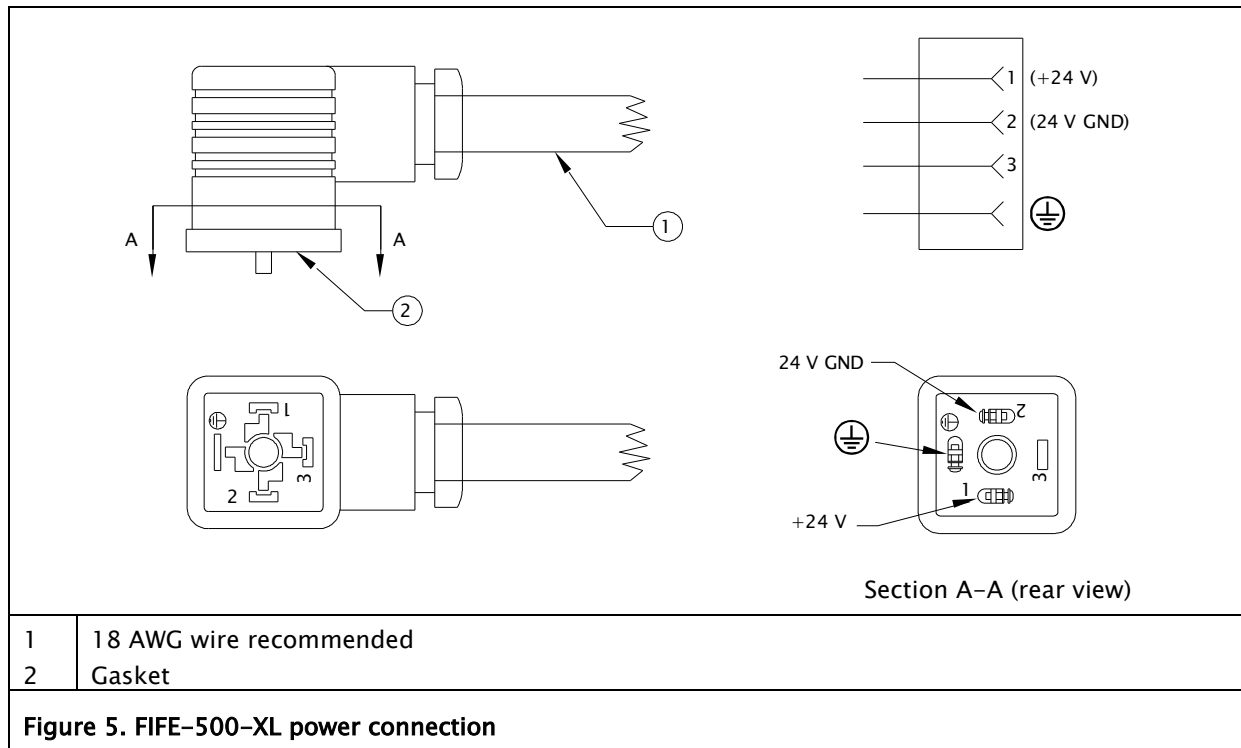

Figure 5. FIFE-500-XL power connection
4. Connect a 24 VDC \pm 25% power supply to pins 1 and 2 of the power connector. Pin 1 should be positive and pin 2 should be negative. See Figure 5.
5. Connect the PE of the building or machine to the power connector terminal marked with the PE symbol. See Figure 5.